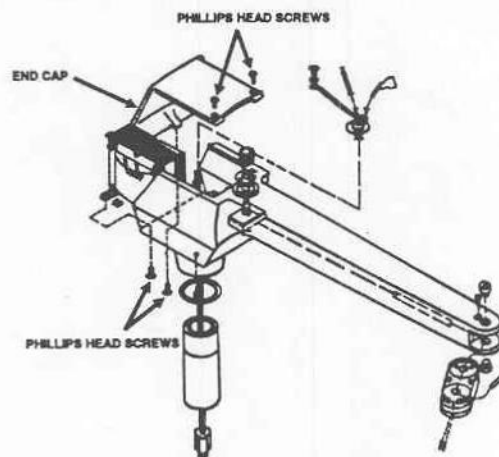

Figure 3-1. Transformer end cap.
(9) Determine the voltage of the electrical power source for the dental light.
(10) Remove the four phillips head screws from the transformer end cap as illustrated in figure 3-1.